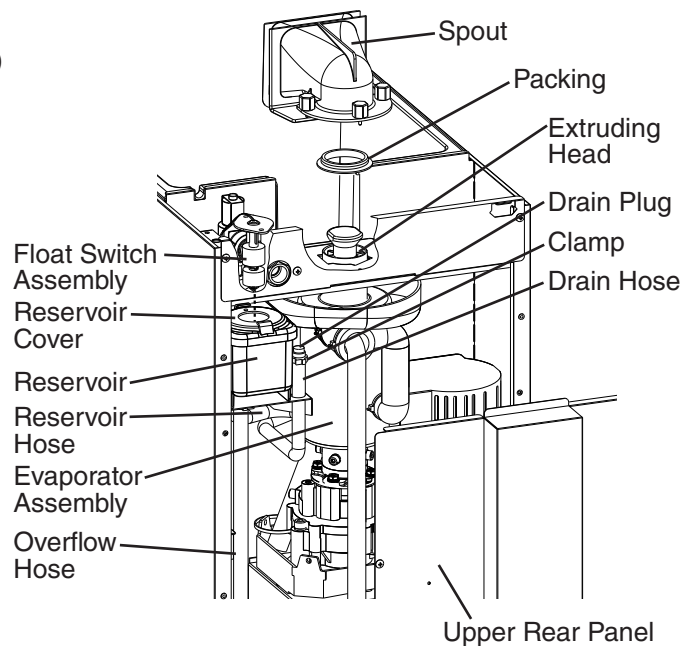

Fig. 33
- 9) Remove the clamp securing the drain plug, then lower the drain hose into a container. See Fig. 33. Remove the drain plug to drain the water from the evaporator assembly and reservoir.